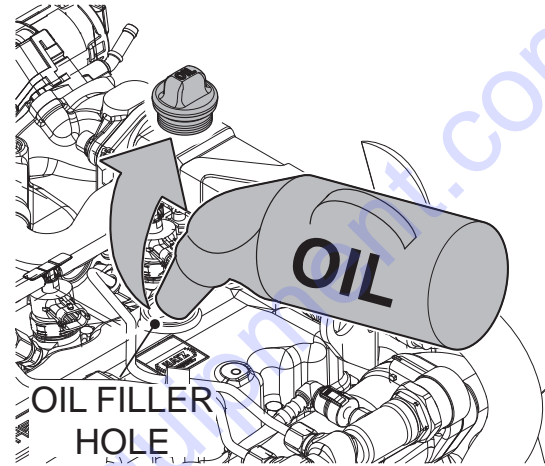

Figure 12. Engine Oil Filler Hole (Upper)
- If the oil level is close to the 'min.' mark, add engine oil through the oil filler hole up to the 'max.' mark. Depending on accessibility, use either the upper oil filler hole (Figure 12) or the lower filler hole (Figure 13).